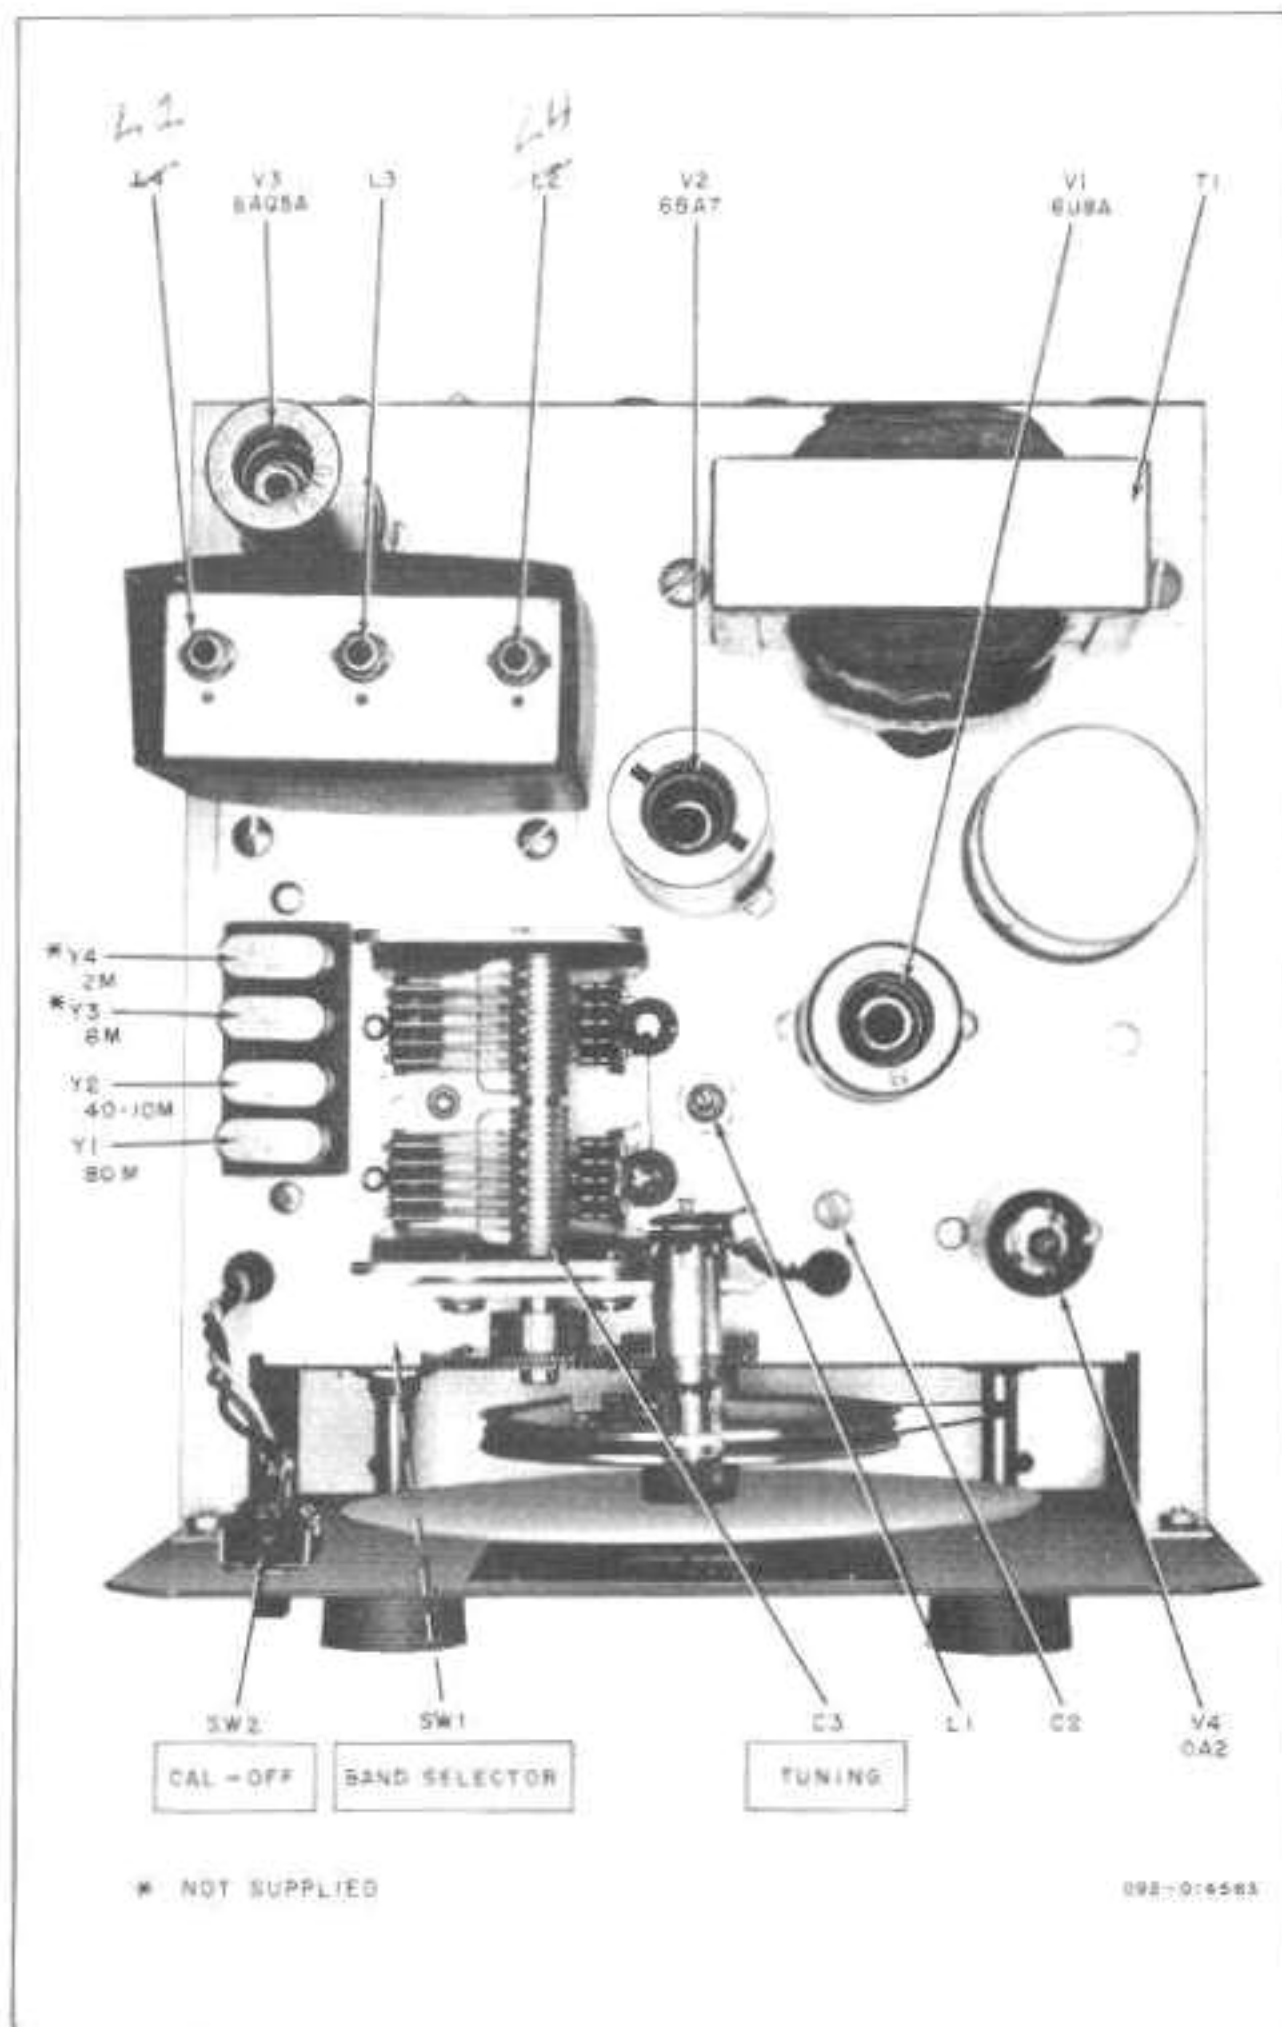

Figure 7. Top View of VFO Chassis.
12. On page -9-, figure 7, in the upper left-hand corner, change reference L4 to L2; near to the right of this, change reference L2 to L4.